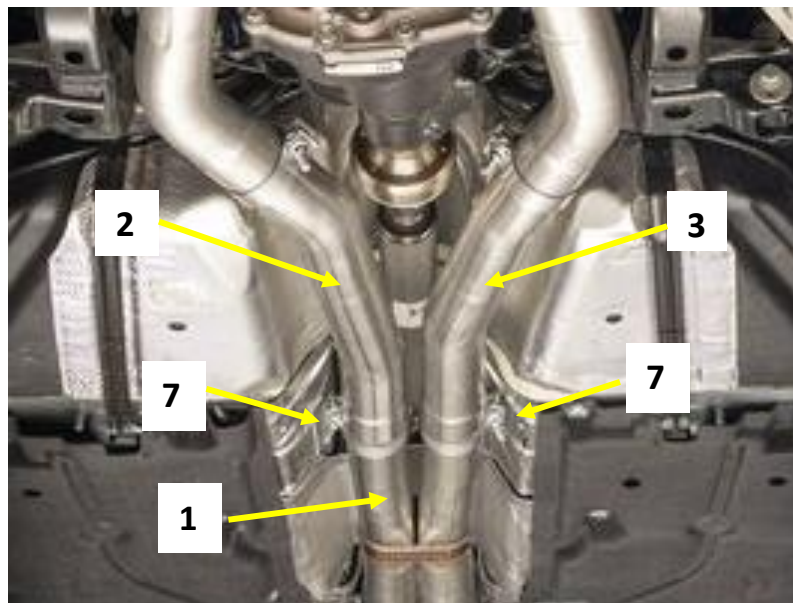

Figure.10
9. Install the Left Mid Pipe (2) on to the outlet of the Scavenger pipe (1). Align level with the ground and tighten the clamp to allow for adjustment. **Fig.10**
10. Install the Right Mid Pipe (3) on to the outlet of the Scavenger pipe (1). Align level with the ground and tighten the clamp to allow for adjustment. **Fig.10**
17. Adjust the stick out of the tips to approximately $\frac{1}{2}$ " past the edge of the cutout in the rear valance. This adjustment is best made at the slip joint between the Savenger pipe and the Mid Pipes. (1/2 and 1/3) **Fig.10**